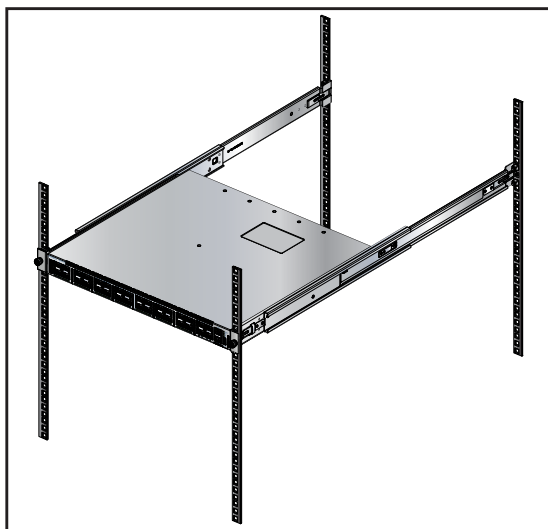

Figure 3-12: Attaching the Switch to the Rack Posts
**Step 3** Attach the bracket flanges to the rack post using the quick-release thumb screws supplied with the brackets (Figure 3-12 on page 15).